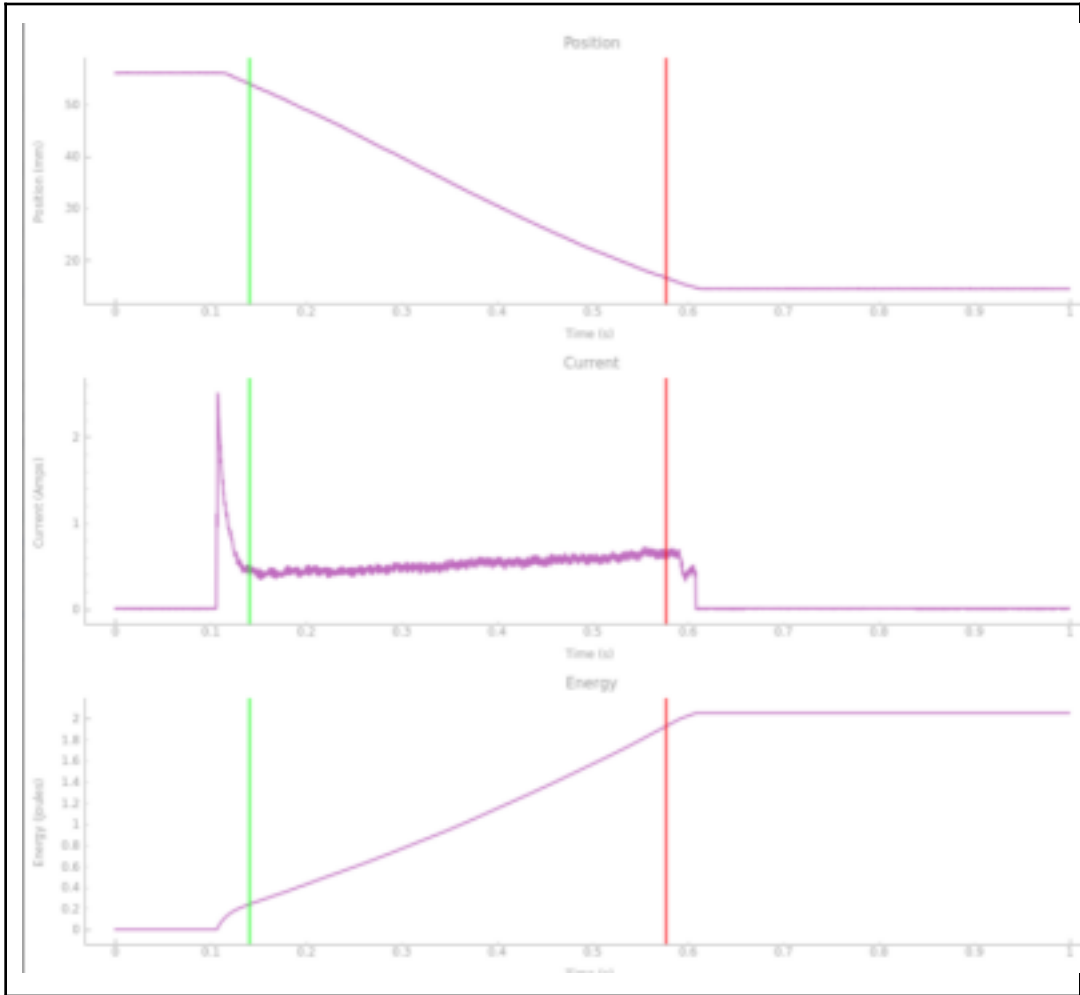

Figure 6
5. Seth received an email back from SRAM with the voltage drop and current withdrawal for each shift, this can be found in figure 6.